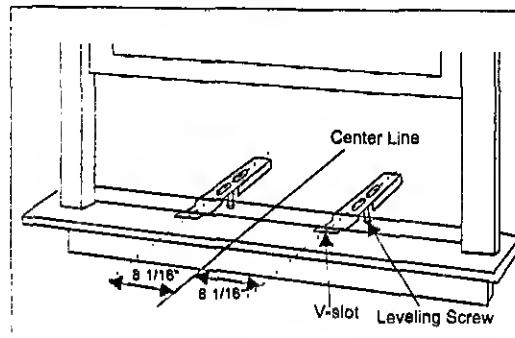
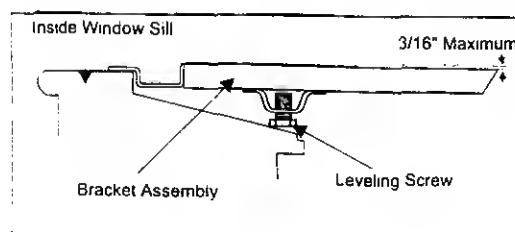

Fig 10
Fig 11
B Measure the inside window sill width and find the center line as shown in (Fig 10). From this center line, measure 8 1/16" on each side and mark these points. Align the V-slot in each bracket on these marks and mount to sill using (2) 3/4" screws provided per bracket. Brackets should be perpendicular to the inside window sill. See (Fig 11)
C Adjust the **leveling screws** until the bracket tilts no more than $3/16"$ downward to the outside. Do not allow the bracket to slant inward as condensation could possibly drip on interior walls and floors. See (Fig. 11)